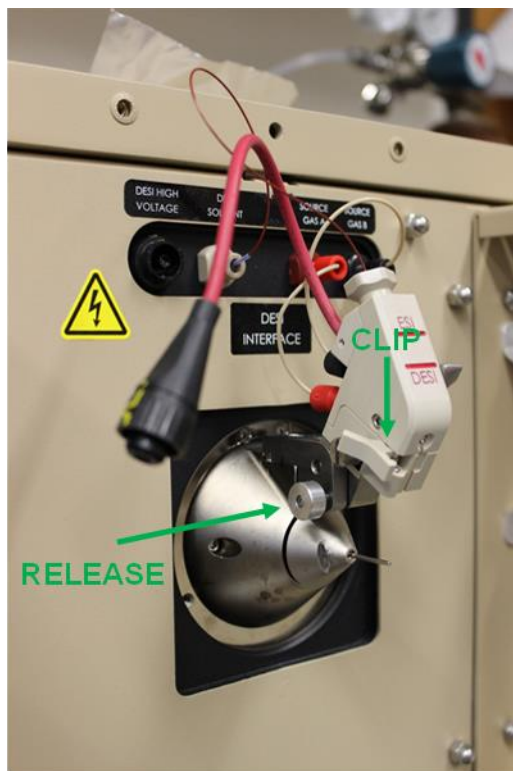

Figure 1.17 – “Up” position of ESI/DESI source
2. Unclasp the clip holding the capillary in place relative to the source (Figure 1.17).
3. Press in the circular release button on the left-side of the source and move the ESI/DESI source to the “up” position (Figure 1.17).
2. Un-plug the DESI high voltage cable from the instrument interface and un-clasp the clip that secures the ESI/DESI source to the inlet capillary (located on lower-left portion of ESI/DESI source) (Figure 1.17).
3. Push in the release button (located on the upper-left side of the ESI/DESI source) and gently raise the source up to the highest position, as depicted above (Figure 1.17).